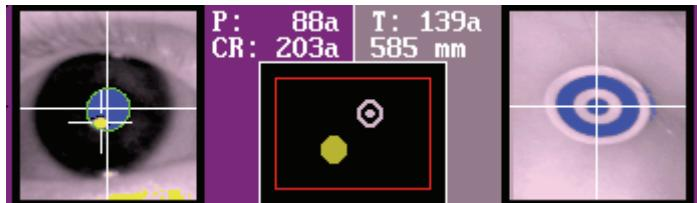

Figure 3-12. Target and Eye Positions in the Thumbnail Camera Images
- 8) Place one of the EyeLink Remote target stickers on the subject's forehead (see Figure 3-12), just above the eyebrow of the tracked eye so that both the eye and the sticker stay within the camera image when the subject's head moves throughout the expected range. If the target sticker is placed too low on the forehead (see middle panel of Figure 3-12), a red horizontal bar will be displayed in the global view of the camera image (on the Camera Setup screen) and an EYEDIST error will appear on the status panel (on Offline, Calibrate, Validate, Drift Correct, Output and Record screens). If the target sticker is placed too far toward the temple (see bottom panel of Figure 3-12), the tracker may report an ANGLE error in the status panel when the subject moves too far in the direction of the sticker.